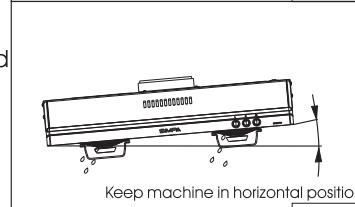

Fig 2-3
3. After installation, the hood shall be kept in horizontal position to prevent grease from pouring out of oil collectors (Fig2-3).